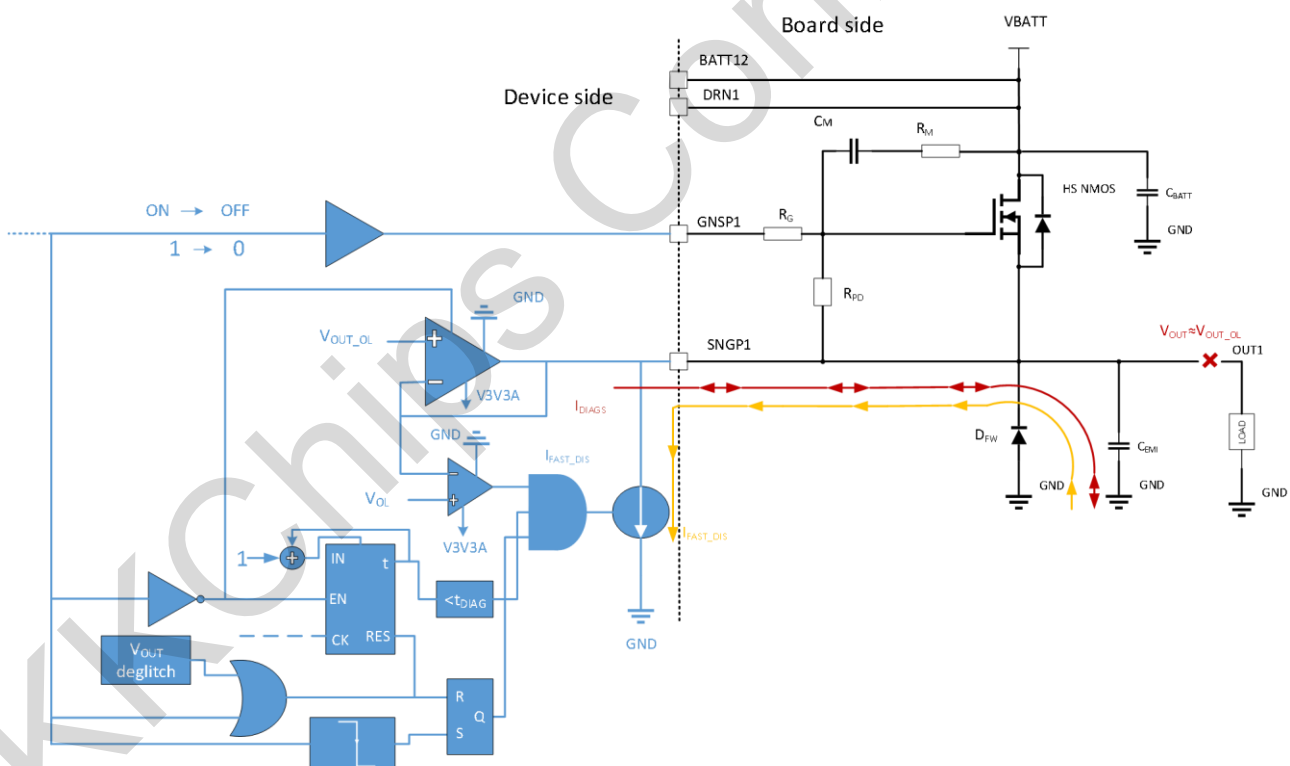
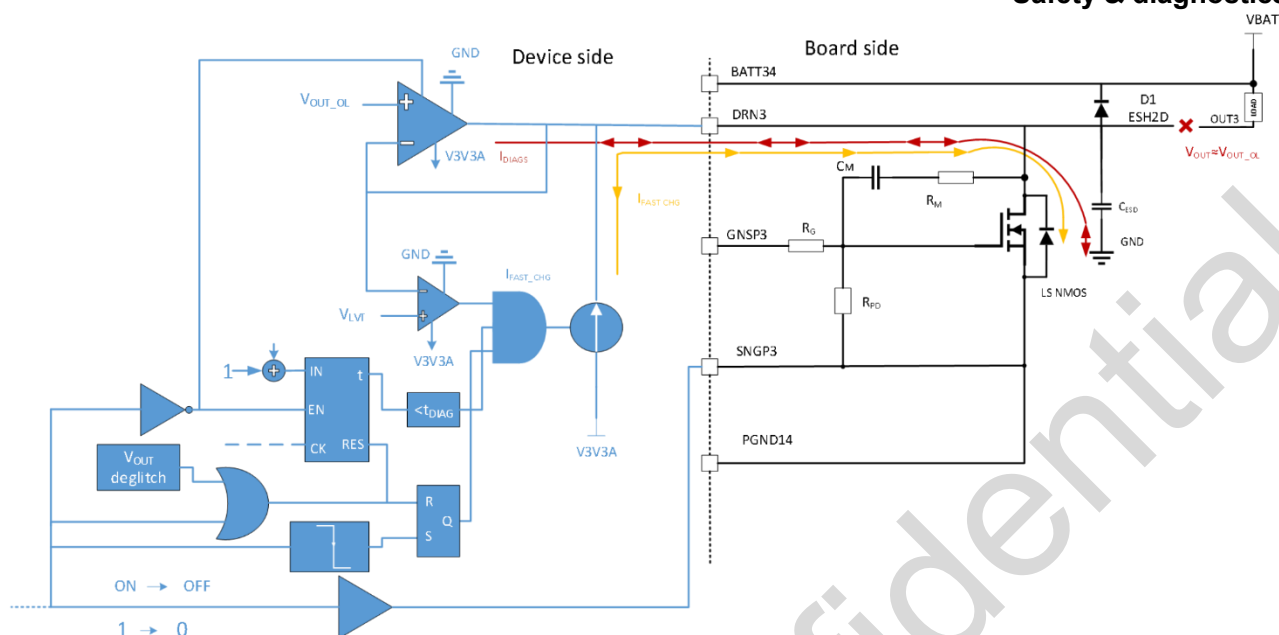
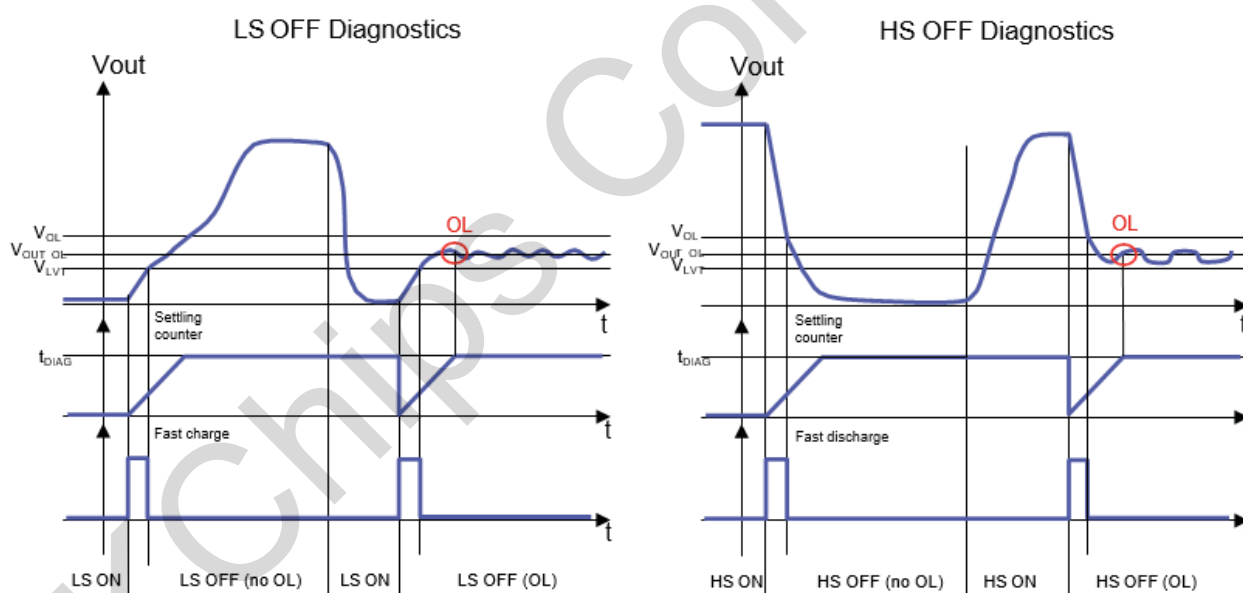

Figure 6-12 OFF state output regulator for OL detection. Example of operation on HS
Figure 6-13 OFF state output regulator for OL detection. Example of operation on LS
Figure 6-14 Fast charge/discharge currents for OL detection: (left) OL detection on LS; (right) OL detection on HS
Refer to Figure 6-12 and Figure 6-14 for OL regulator operation in HS configuration.
Refer to Figure 6-13 and Figure 6-14 for OL regulator operation in LS configuration.
- When HS transistor is switched OFF, a fast discharge current I_{FAST_DIS} rapidly decreases V_{out} down to V_{OL} to help the OL regulator detect an eventual open load fault (see Figure 6-12 and Figure 6-14). I_{FAST_DIS} is enabled in case:
- When LS transistor is switched OFF, a fast charge current I_{FAST_CHG} rapidly increases V_{out} up to V_{LVT} to help the OL regulator detect an eventual open load fault (see Figure 6-13 and Figure 6-14). I_{FAST_CHG} is enabled in case: